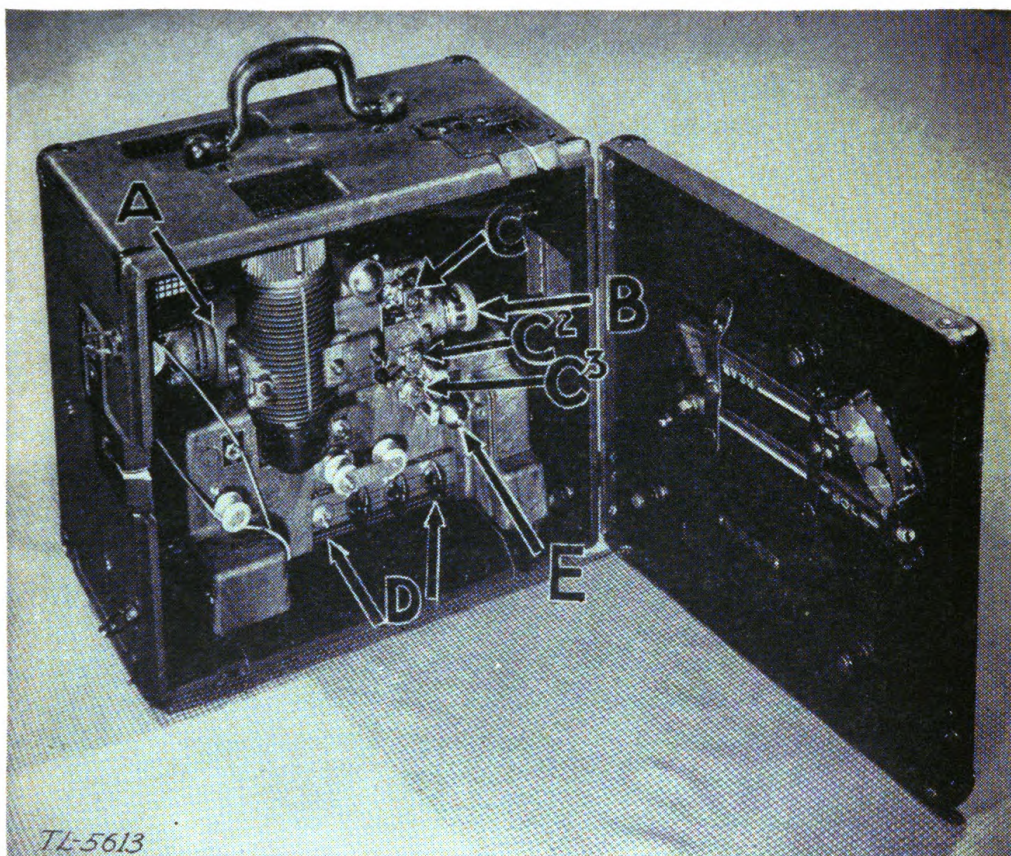

FIGURE 2.—Bell & Howell projector case open showing detachable reel arms in carrying position.
2. **Types of projectors and screens.**—*a.* Four types of 16-mm projectors are used in the Army training program: Ampro YA, Phonofilm, Bell & Howell, and R. C. A. The complete projector usually comes in two cases, a projector case and a speaker case (see fig. 1). The projector case (fig. 2) houses the motor *A*, lens *B*, sprockets *C*¹, *C*², and *C*³, control panel *D*, sound drum *E*, and the projector and exciter lamps. The speaker case houses the speaker, speaker cable *G*, power cable *H*, reel *I*, a tool kit *J*, spare lamps, and extra tubes. (See fig. 3.) The size and weight of the four projector models are shown in the following table: